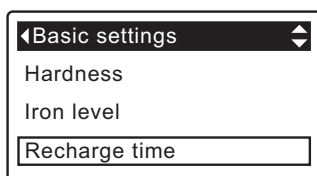

FIG. 40
3. Press the OK/MENU button to display the Basic settings menu (See Figure 40).
7. Press the OK/MENU button. The display will go back to the Basic settings menu (Figure 40).